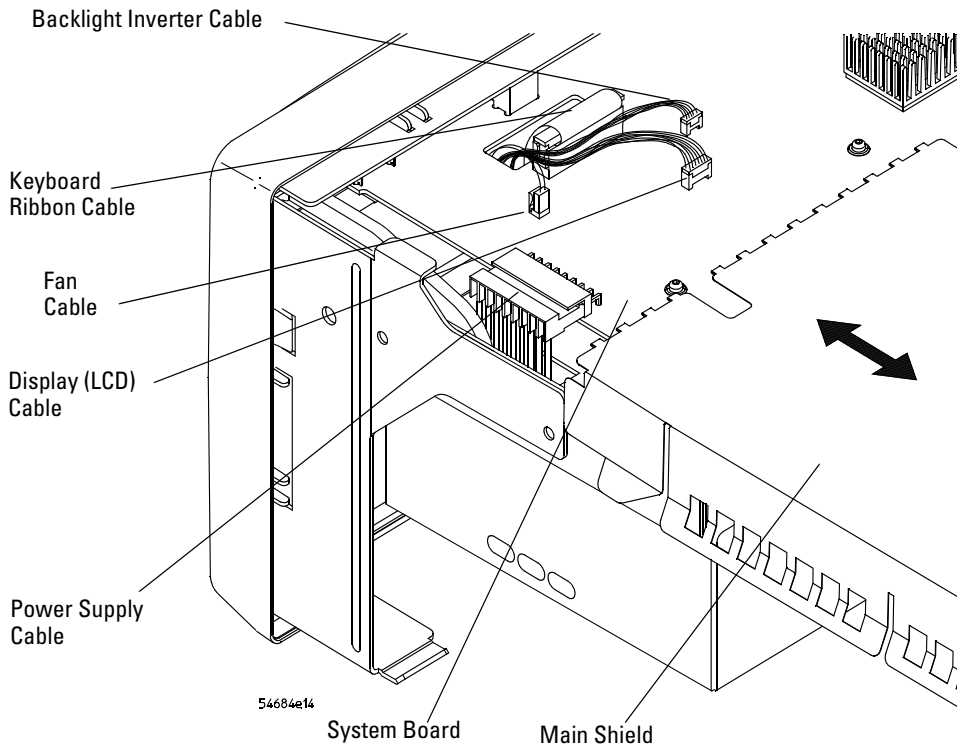

Figure 44 Preparing to remove the system board
- f** Ensure that the backlight, fan, and LCD cables are routed to the left of the keyboard ribbon cable as shown in Figure 44 on page 133.